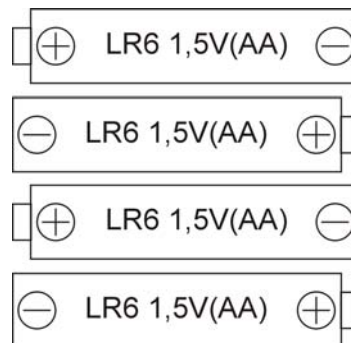

Figure 4.
- Insert 4 durable alkaline AA batteries into the Device with taking care of the right polarity (see Figure 4)